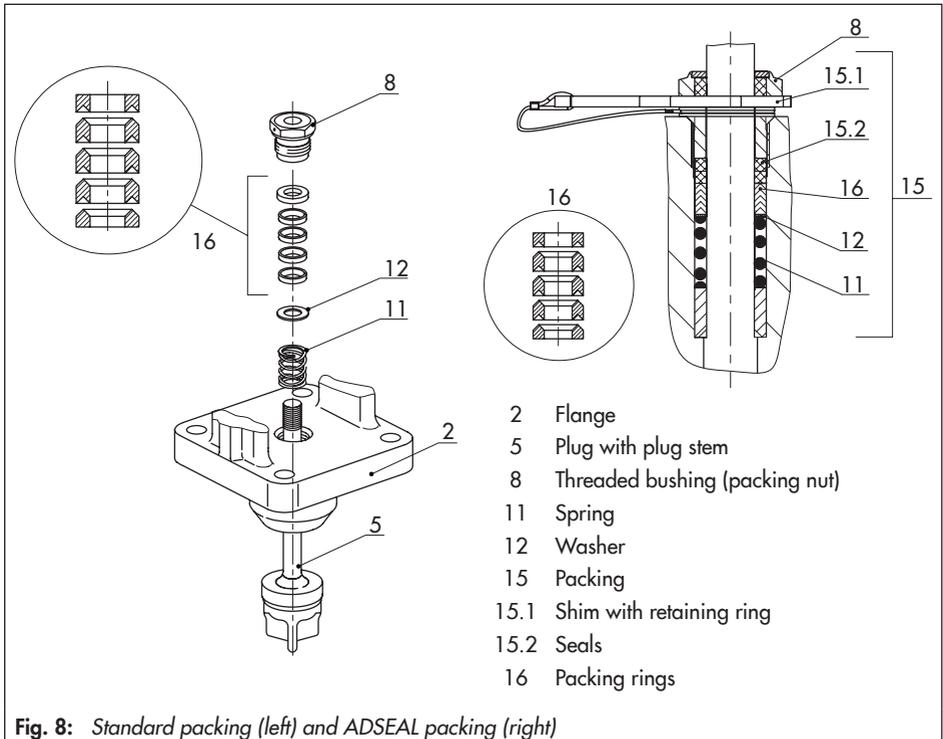

Fig. 8: Standard packing (left) and ADSEAL packing (right)
12. Carefully slide the packing parts over the plug stem into the packing chamber using a suitable tool. Make sure to observe the proper sequence (see Fig. 8).
13. **Diverting valve:** firmly press the plug (5) into the top seat (4).
- Spring (11)
- Washer (12)
- Packing rings (16)
4. Insert the red spacer ring (15.1) between the threaded bushing (8) and retaining ring. See Fig. 8.
2. Unthread the stem connector nut (9) and lock nut (10) from the plug stem extension (25).
3. Unscrew the threaded bushing (8).
4. Remove nuts (33) and bolts (32).
5. Carefully lift the flange (2) over the plug stem extension (25).
8. Apply a suitable lubricant to all the packing parts and to the plug stem extension (25).
9. Carefully place the flange (2) over the plug stem extension (25) onto the insulating section (21).
- Mixing valve with V-port plug:** place the flange (2) onto the insulating section, making sure that the largest V-shaped port of the V-port plug faces toward the valve outlet (**AB**) at the side. See section 5.1.
10. Carefully slide the packing parts over the plug stem extension into the packing chamber using a suitable tool. Make sure to observe the proper sequence (see Fig. 8).
11. Fasten the flange with nuts (33) and bolts (32). Observe tightening torques.
12. Screw in the threaded bushing (8) and tighten it. Observe tightening torques.
13. Loosely screw the lock nut (10) and stem connector nut (9) onto the plug stem.